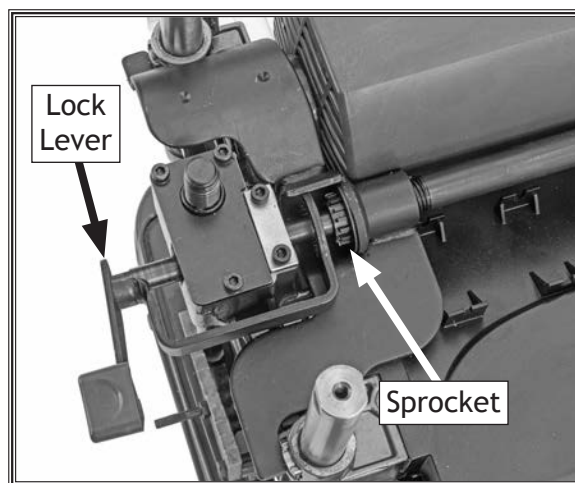

Figure 34. Cutterhead lock lever disengaged from sprocket.
4. Pull lever out and away from machine $\frac{1}{2}$ " to disengage lever from sprocket (see **Figure 34**).